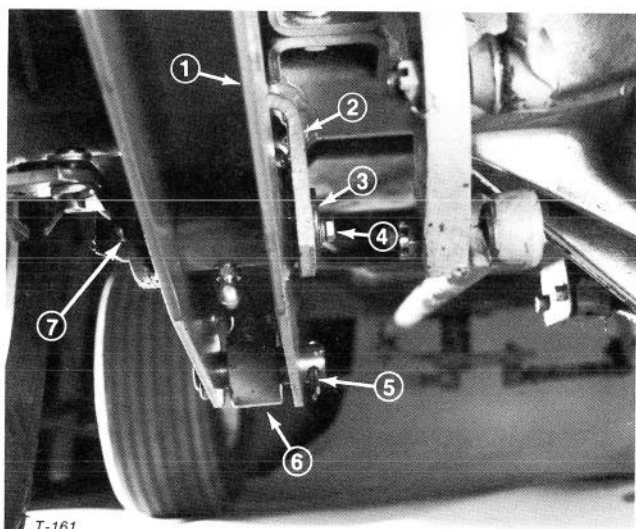

Figure 2
2. Align lift arm holes with cylinder rod hole, insert pin and secure with cotter pin (Fig. 2).